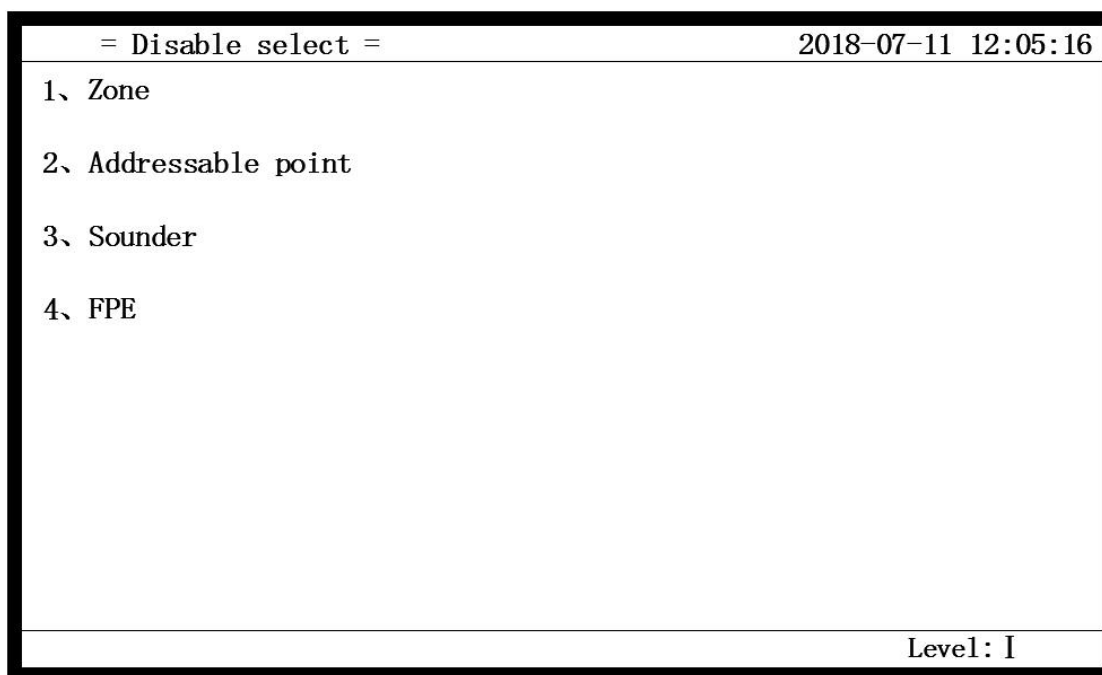

Fig. 5-15
The device disable can be divided into point disable and zone disable. It can also block all sounders and FPE equipment. Press the “Disable” button and enter the Level II password correctly, as shown in Figure 5-15.
5.8.1.1 For example: to isolate all devices in Zone 01, press the number key “1” on the interface of Figure 5-15 to enter the zone isolation operation interface, and follow the steps below:
5.8.1.2 For example: to isolate the loop device of No. 001 of the 1 circuit, press the number key “1” on the interface of Figure 5-15 to enter the point isolation operation interface, and follow the steps below: